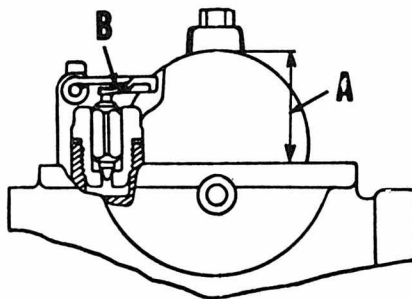

Fig. K6-2—Float level (A) may be adjusted by bending tang (B). Both sides of float should be of equal height.
Clip (7) in third groove from top of needle (8). Float level on 500cc models should be 29-31 MM (1½-1⅝ inch) and on 350cc models should be 27-29 MM (1⅛-1⅝ inch). Float levels are adjusted by bending tang (B—Fig. K6-2)